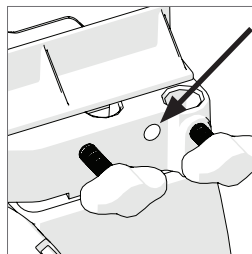

Fig. 19
- Remove the grub screw (**Fig 19**) which holds the sliding upper part of the fence 'captive' to the main fence casting.